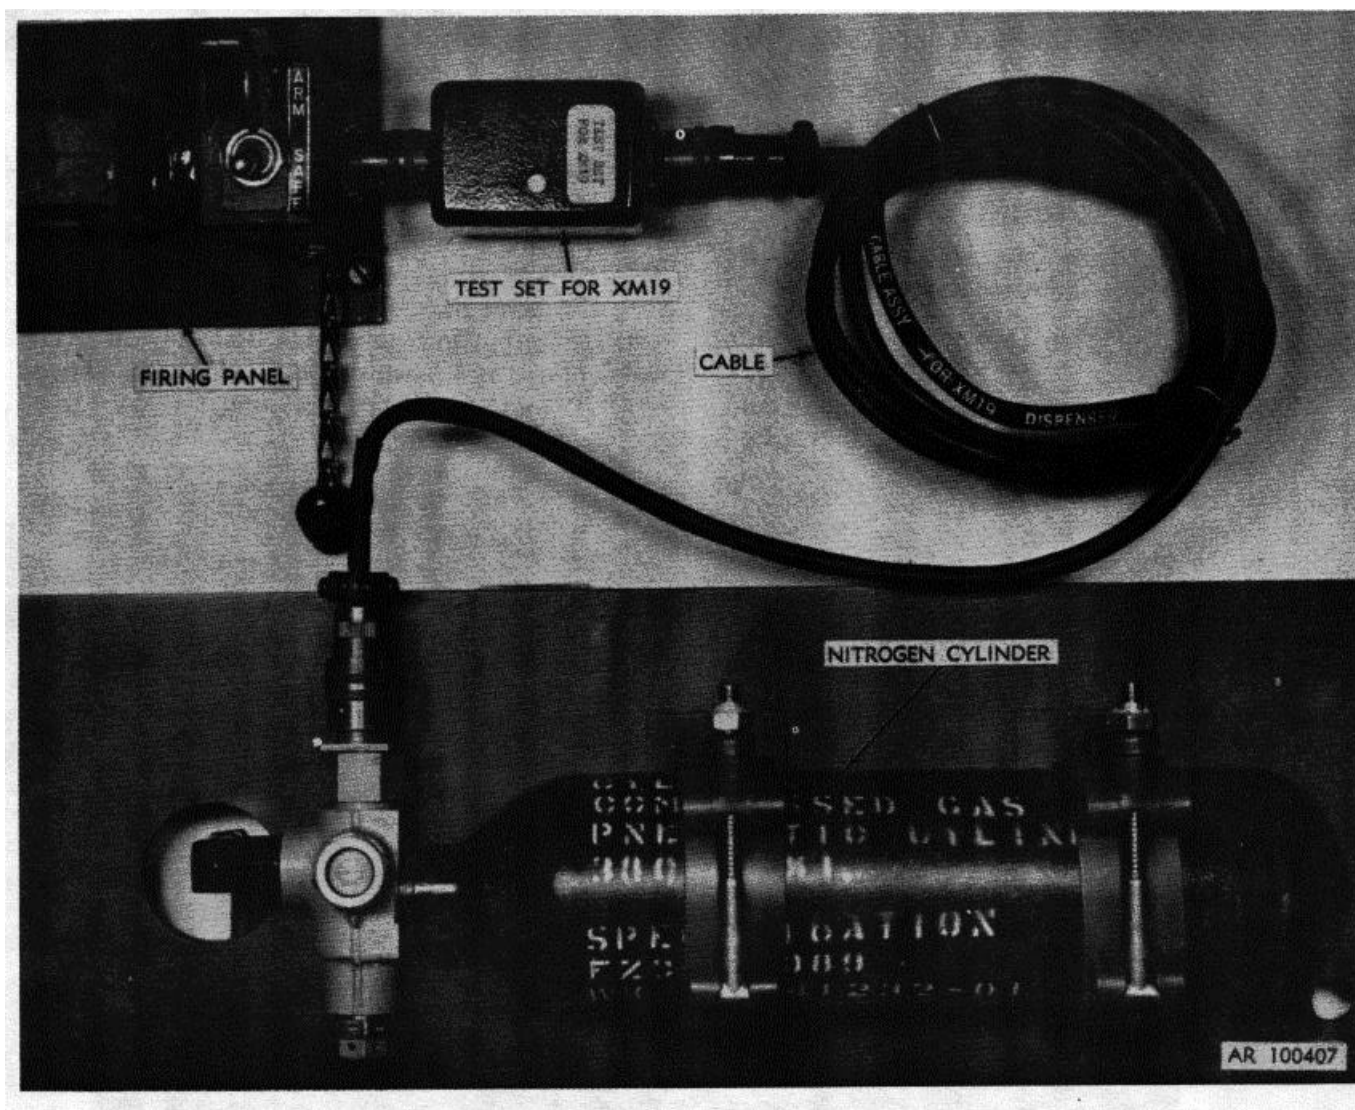

Figure 2-8. Continuity test setup for flare dispenser XM19.
(1) Disconnect cable from firing panel and insert test set between firing panel and cable (fig. 2-8).
(2) Rotate bail out from under handle of